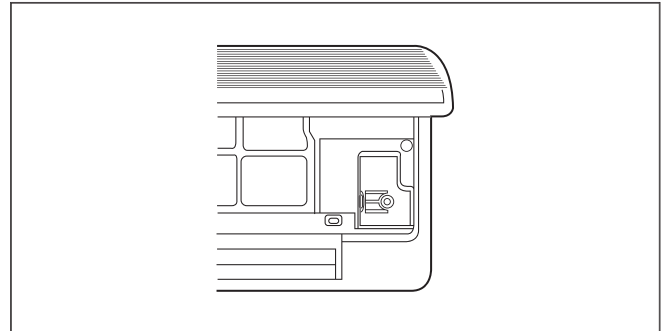

Fig. 11.1 Wiring Cover.
- Remove the wiring cover on the right of the body by unscrewing it (see Figure 11.1).